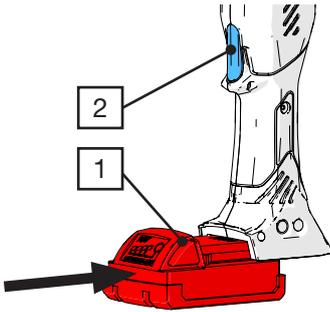

Fig. 6: Inserting the battery
- Press and hold the START button (Fig. 6/2) and slide the battery (Fig. 6/1) back in. The status LEDs will flash red.